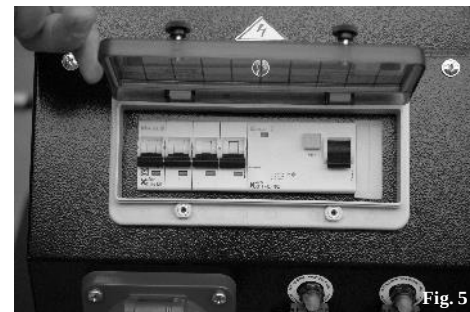

Fig. 5
7.5 Check if all switches are in the OFF position and if all protections are working, both in the tractor and the genset – see fig. 5
8.4 Put the switches in the OFF position – fig. 5.